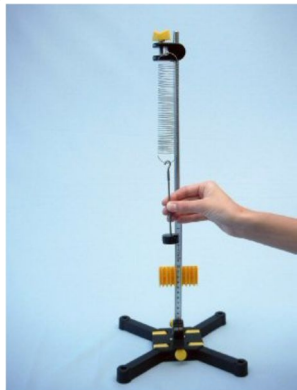

Fig. 9
- Now hang a 40 g mass on the helical spring and let it "fall". Observe the process (Fig. 9).